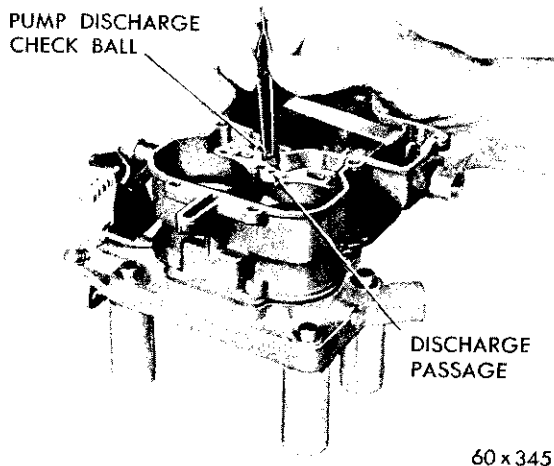

Fig. 25—Installing the Discharge Check Ball
(5) Install the accelerator pump discharge check ball ($\frac{3}{16}$ inch) in the discharge passage, as shown in Figure 25.